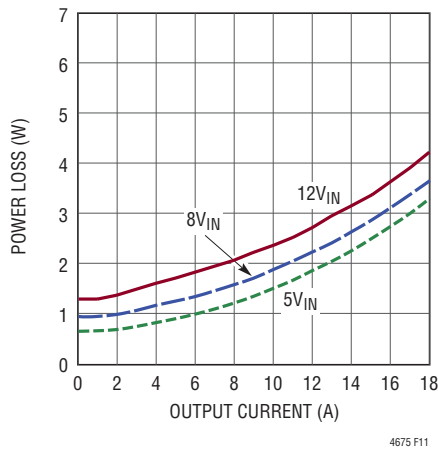
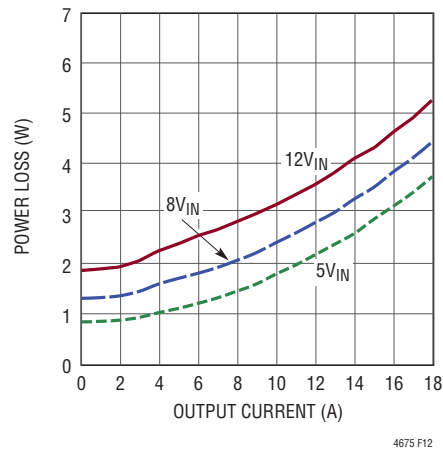
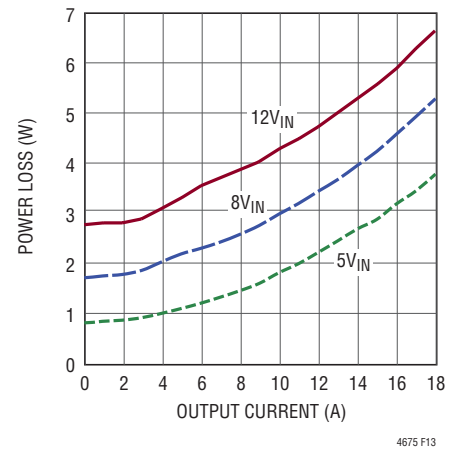

Figure 11. 1V_{OUT} Power Loss Curve
Figure 12. 1.8V_{OUT} Power Loss Curve
Figure 13. 3.3V_{OUT} Power Loss Curve
The 1V, 1.8V and 3.3V power loss curves in Figure 11, Figure 12 and Figure 13 respectively can be used in coordination with the load current derating curves in Figures 14 to 25 for calculating an approximate θ_{JA} thermal resistance for the LTM4675 with various heat sinking and air flow conditions. These thermal resistances represent demonstrated performance of the LTM4675
1.8V_{OUT} power loss curve at 12A (Figure 12), with the 1.125 multiplying factor at 65°C ambient (from Table 14). If the 65°C ambient temperature is subtracted from the 120°C junction temperature, then the difference of 55°C divided by 4.05W yields a thermal resistance, θ_{JA} , of 13.6°C/W—in good agreement with Table 16. Table 15, Table 16 and Table 17 provide equivalent thermal resistances for 1V, 1.8V and 3.3V outputs with and without air flow and heat sinking. The derived thermal resistances in Table 15, Table 16 and Table 17 for the various conditions can be multiplied by the calculated power loss as a function of ambient temperature to derive temperature rise above ambient, thus maximum junction temperature. Room temperature power loss can be derived from the efficiency curves in the Typical Performance Characteristics section and adjusted with ambient temperature multiplicative factors from Table 14.